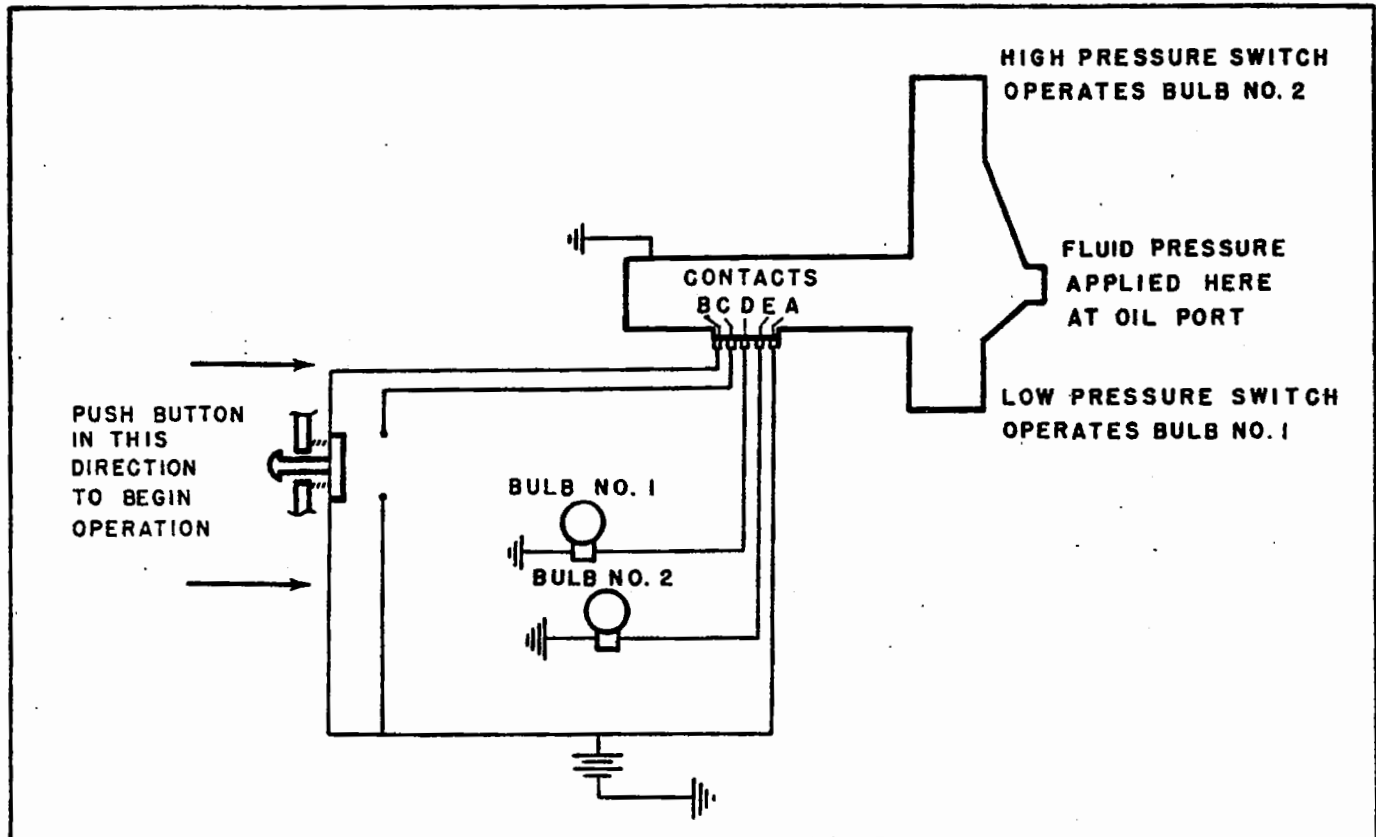

Figure 4-124. Gun Charging Pressure Switch Test Set-up.
b. Using set-up shown in figure 4-124, press button and apply slowly increasing pressure to oil port. When button is pressed, bulb number two must light. Release button when pressure reaches 50 psi. Bulb number two must remain lit. Continue to increase pressure. At 750 to 1025 psi (plus or minus 25 psi) bulb number two must go out and bulb number one must light. Reduce pressure slowly. Bulb number one must go out at 17 to 20 psi. Bulb number two must remain out. Repeat three times.